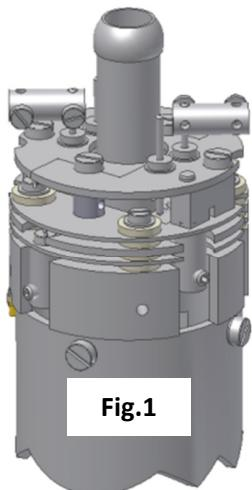

Fig.1
2. The filaments are located on the very top of the analyser, retained by four M2 x4 pan head screws. The electrical connections are made via two barrel connectors, one to each filament, see Fig.1.
3. Loosen the two M2x4 screws highlighted in red that secure the filament connecting wires, see Fig.1.